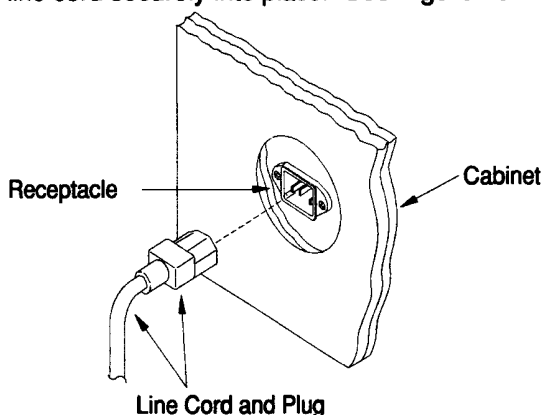

FIGURE 13
17. Plug the line cord into the game cabinet. Match the prongs on the plug with the holes in the receptacle, and push the line cord securely into place. See Figure 13.